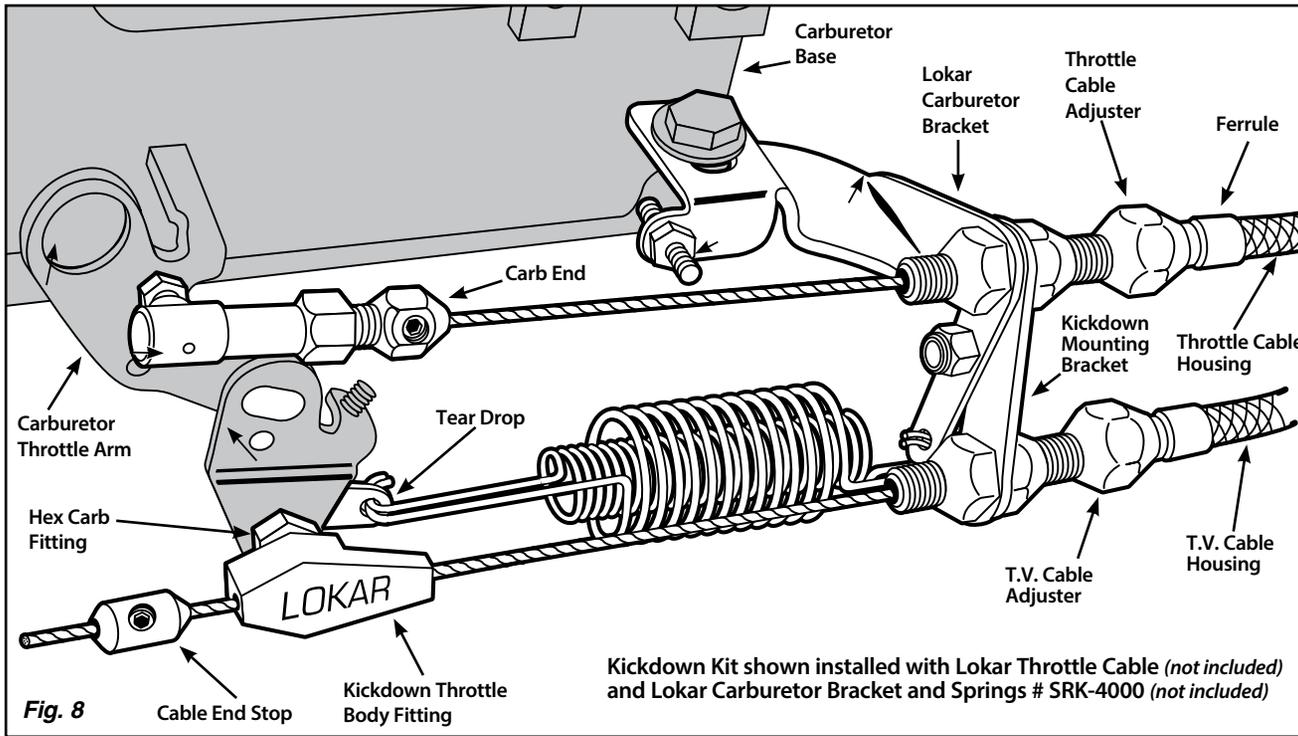

Fig. 8
Step 9: The tear drop will be attached to the carburetor throttle arm by the hex carb fitting. Separate the hex carb fitting from the kickdown throttle body fitting as shown in Fig. 7. Install the tear drop with the hex carb fitting and the 1/4"-28 nylock jam nut onto the carburetor throttle arm. Hook the springs to the tear drop and tighten the nylock jam nut. Fig. 8 Then, back the nut off just enough so that the tear drop can rotate freely.